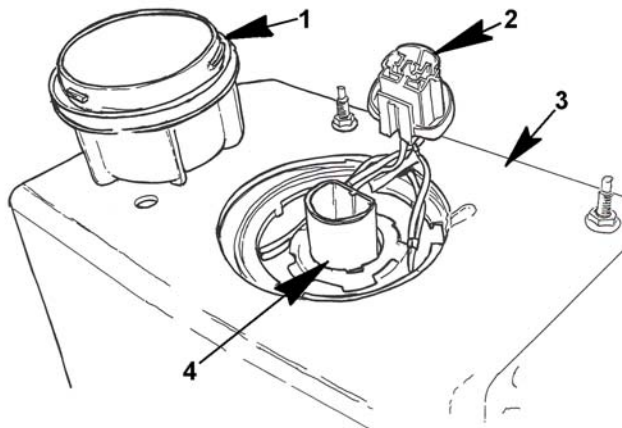

Figure 45 Socket Removal
3. Remove light socket pigtail plug (Figure 45, Item 2).